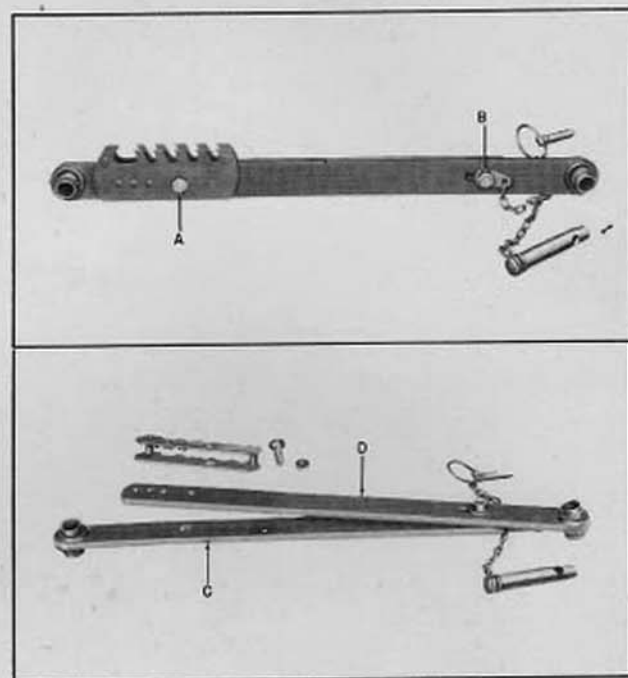

Fig. 9
The small top link can be identified as follows: It contains only two (2) bolt holes—"A" and "B". (Fig. 9)
Figure 9 shows two views of the top link, one where it is completely assembled ready for use. Should it ever be necessary to remove the angle control rack, remove bolt "A" and loosen nut "B". Separate the two sections of the top link, "C" and "D", then remove the angle control rack from section "D".